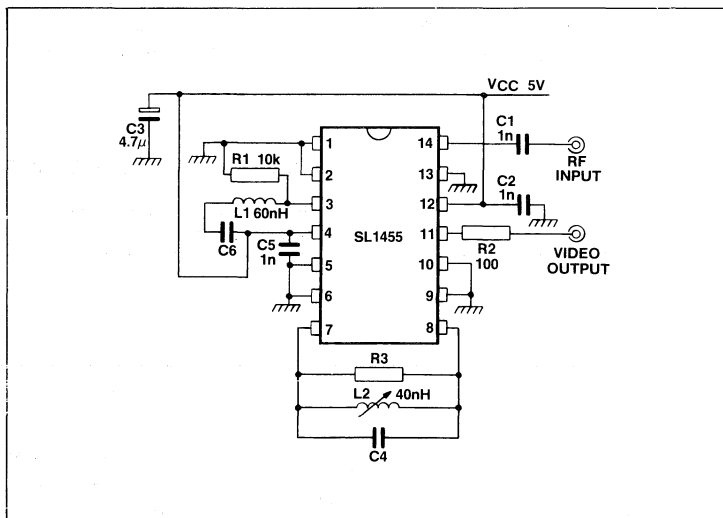

Fig.3 Typical application, 612MHz threshold extended demodulator
1. All parameters from Noise threshold to Video bandwidth are determined by the application circuit. These results were gained with the circuit in Fig.3